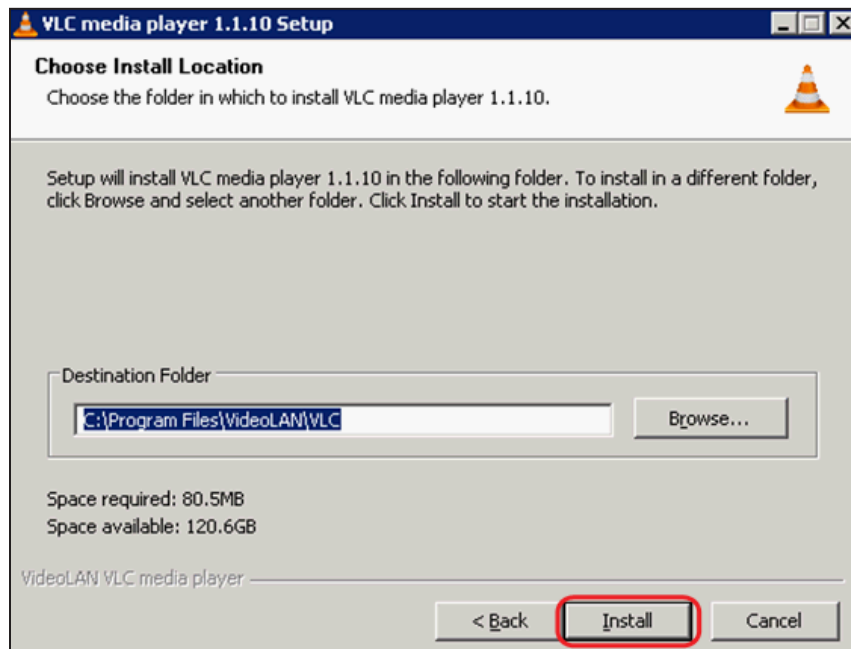

Figure 48. VLC Media Player Install Location Window
- The VLC media player install location window appears. If necessary, click on the **Browse** button to select an installation location for VLC media player. Click **Install** (see figure 48).